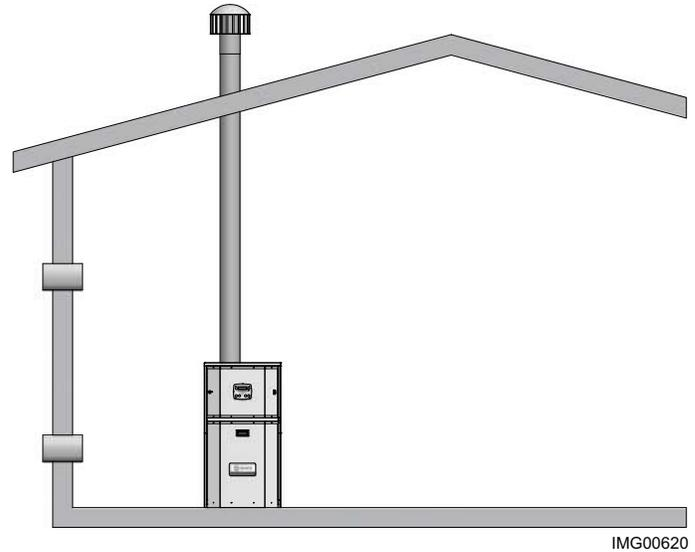

Figure 1-2_ Combustion Air Direct from Outside
1. If air is taken directly from outside the building with no duct, provide two permanent openings to the equipment room (see FIG. 1-2):